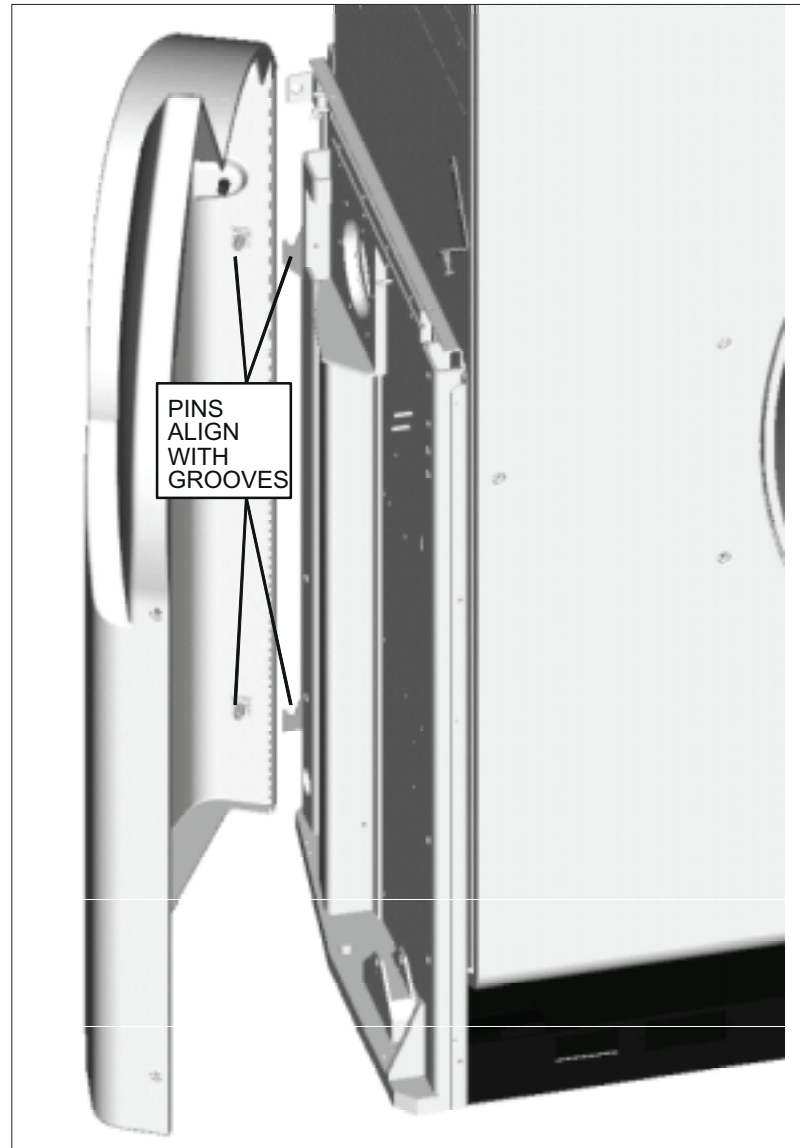

FIGURE 232 LOWER RIGHT COLUMN COVER
5. Install the Lower Right Column Cover onto the right side column. Align and insert Locating pins on Lower Right Column Cover with the V groove features on the Side Column. Refer to Figure 232.